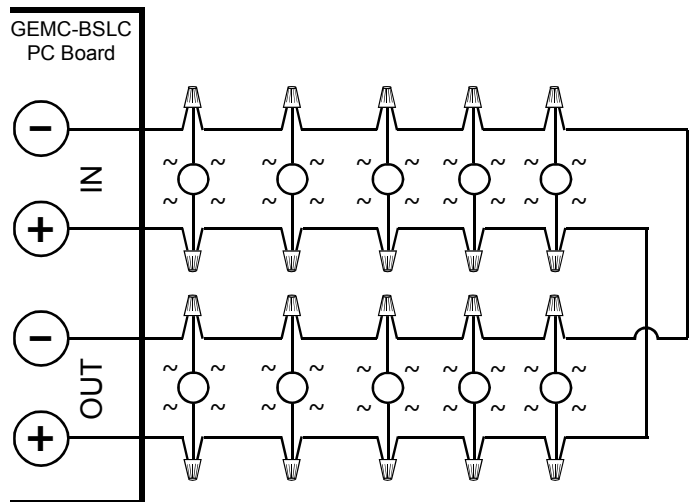

Fig. 2: BSLC Loop Class A (single-point) wiring example (IN and OUT GEMC-BSLC PC Board polarity observed)
**Wiring Requirements:** Both the **SLC OUT** and **SLC IN** terminals must be daisy chained with the first device wired to **SLC OUT** and the last device wired to **SLC IN**. **Note:** Only 4-point devices (GEMC-BSLC-4PT) fully comply with Class A wiring specifications; single-point devices cannot have two wires in the same terminal, therefore they are unable to report alarms if an open occurs in either wire that runs from the device to the loop (although a trouble will be generated). See Fig. 2 for this type of single-point device wiring. **Important:** Both **IN** and **OUT** terminals must be wired with polarity observed, as shown in the diagrams below.